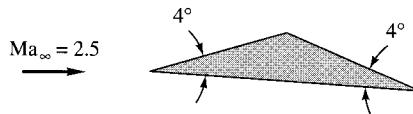

Fig. P9.151
- 9.151** Air flows at  $Ma = 2.5$  past a half-wedge airfoil whose angles are  $4^\circ$ , as in Fig. P9.151. Compute the lift and drag coefficients at  $\alpha$  equal to (a)  $0^\circ$ ; and (b)  $6^\circ$ .